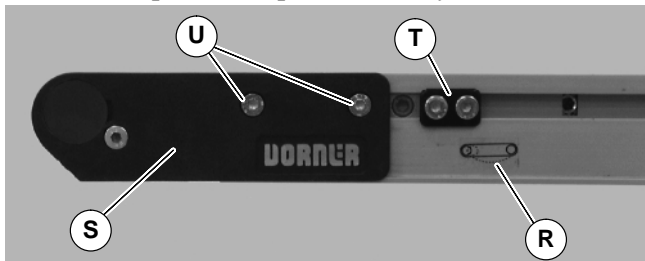

Figure 18
3. On tension end of the conveyor, identified with a  label (R of Figure 18), push in head plate assembly (S): On both sides of conveyor, loosen and move cam tracking assemblies (T) (if equipped) away from head plates, then loosen fastening screws (U) and push head plate assembly inward.